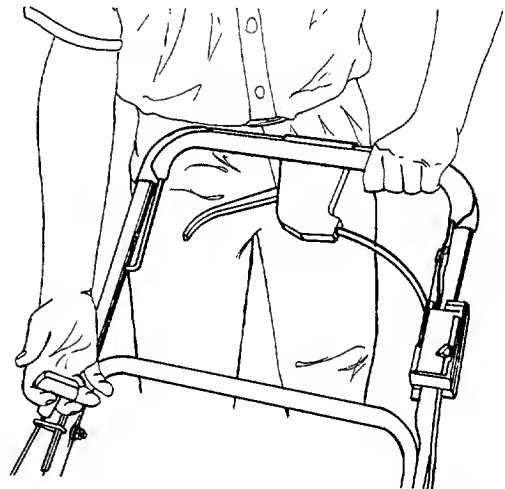

FIGURE 19.
4. Standing behind the unit, depress the blade control handle and hold it against the upper handle as shown. See figure 19.